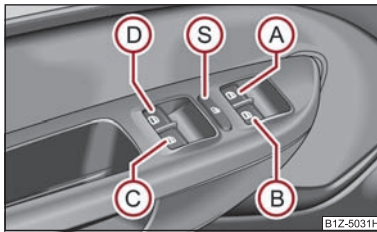

Fig. 32 Buttons on the driver's door
The buttons for the individual windows are located in the armrest of the driver's door ⇒ fig. 32, front passenger door and in the rear doors\* ⇒ page 40.
You can deactivate the buttons for power windows at rear doors by pressing the safety pushbutton Ⓢ ⇒ fig. 32. The buttons for power windows at rear doors are activated again by pressing the safety pushbutton Ⓢ again.
- It is recommended to deactivate the electrically operated power windows in the rear doors (safety pushbutton) Ⓢ ⇒ fig. 32 when children are being transported on the rear seats.